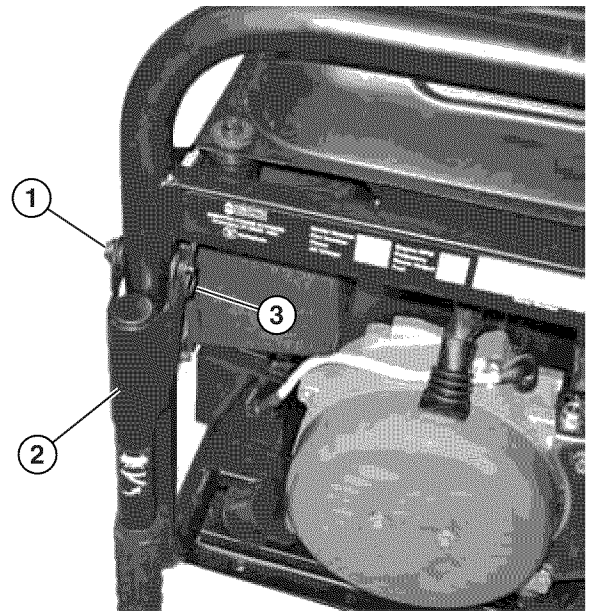

Figure 14 – Attaching the Handles
7. Install the handles using the clevis pin and hairpin cotter as shown in Figure 14.